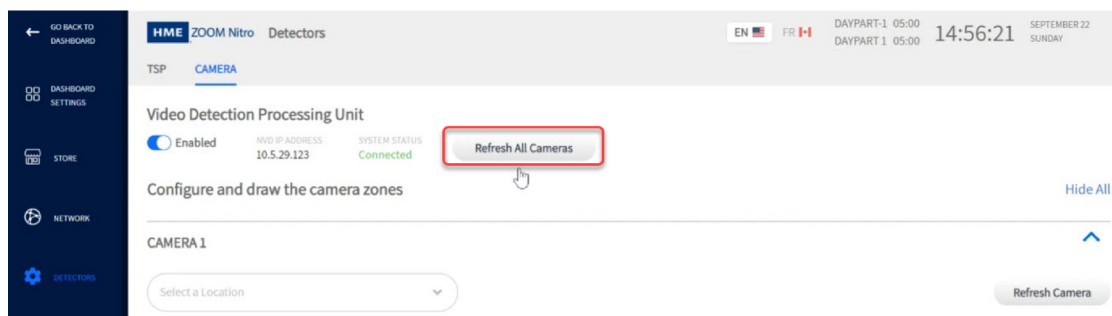

Fig. 17
4. The Camera page will populate. Click/tap the “Refresh All Cameras” button (Fig. 17).